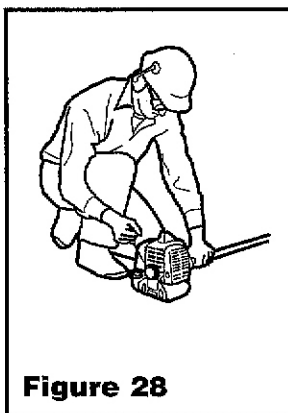

Figure 28
3. Pull the starter cord out slowly until you feel the starter engage. See Figure 28.